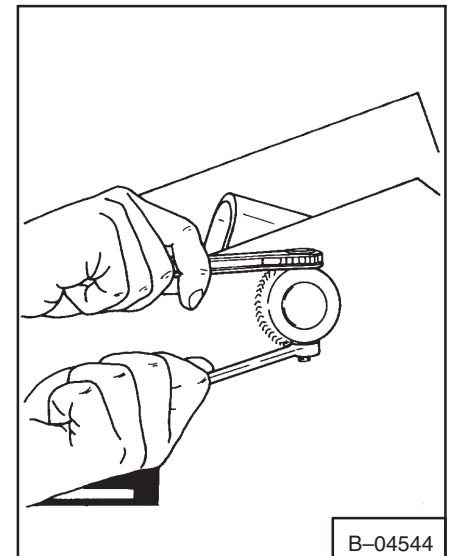

**Fig. 5-41** Removing Rod End Pin
7. Remove the pivot pins (Fig. 5-41). Be careful when removing the pivot pins at the lift cylinder. Put a support under the cylinder to keep it from falling when the pins are removed.